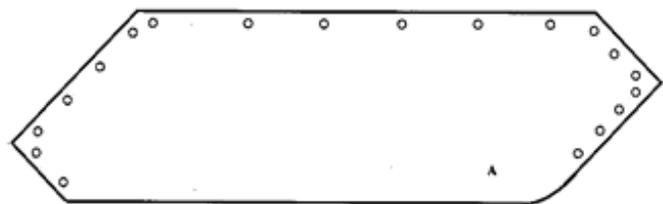

Figure 3 Hole Patterns
4. Drill holes in the two sides to accept 6-32 stainless steel flathead screws. The hole pattern is shown in Figure 3. Do not counter sink the holes at this time. You may want to use these holes as a reference when laying out the holes for the front, rear, and top pieces.